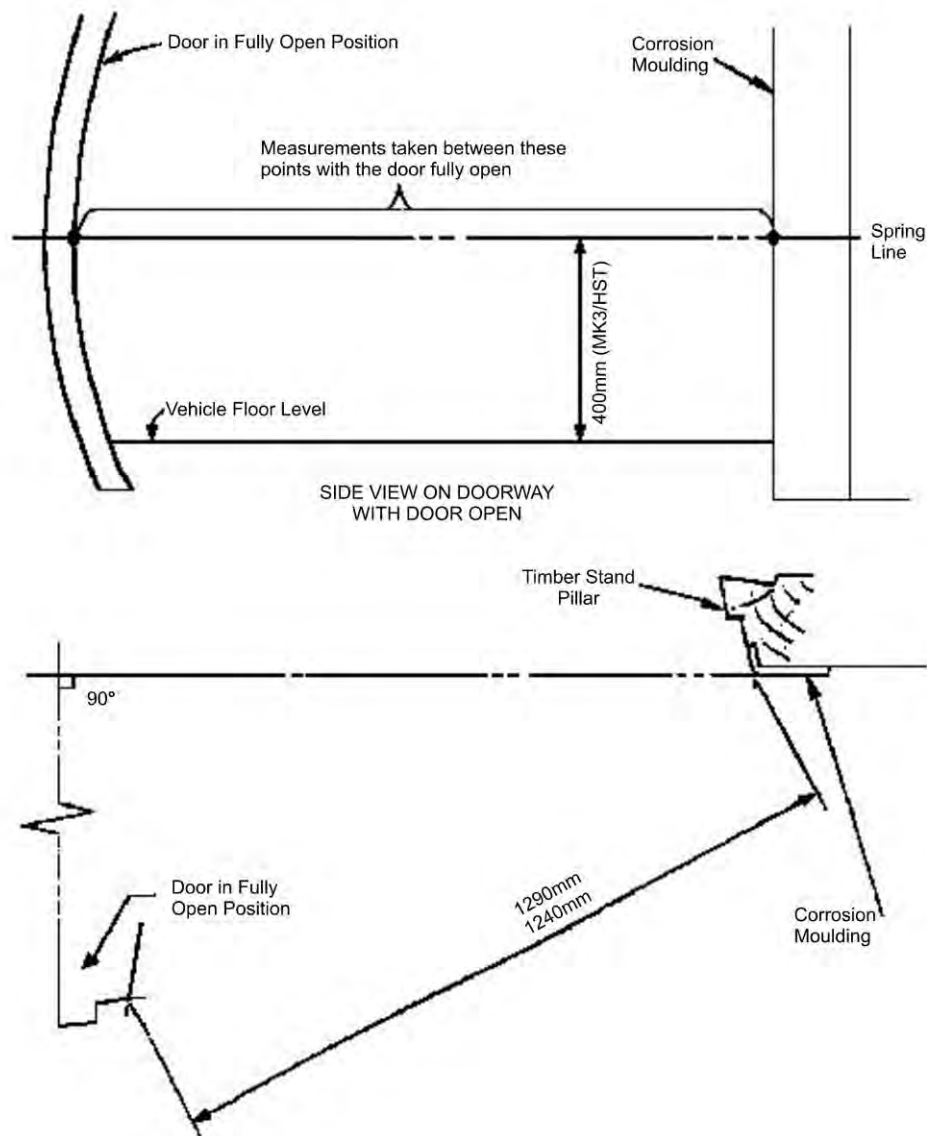

Figure 1: Plan View of Doorway
- Check that the limit control retains the door at approximately right angles to the vehicle side by checking the measurement shown in Figure 1.
Job No. OL 0140 Figure 1 - Check that the limit control retains the door between 85° - 90° by measurement.